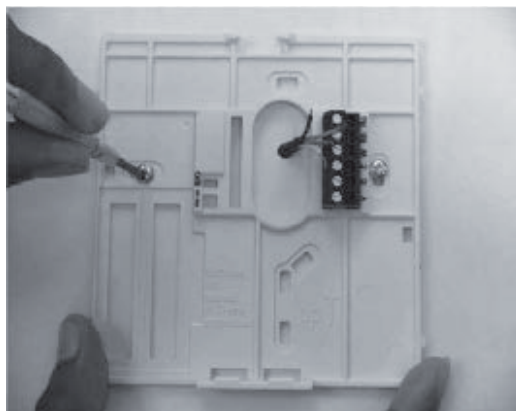

Fig. 1 - Back-plate Mounting
4. Route the NUI wires through large hole in mounting base. Level mounting base against wall and mark wall through 2 mounting holes. See Fig. 1.